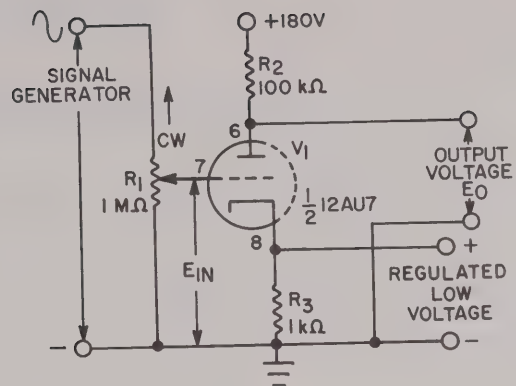
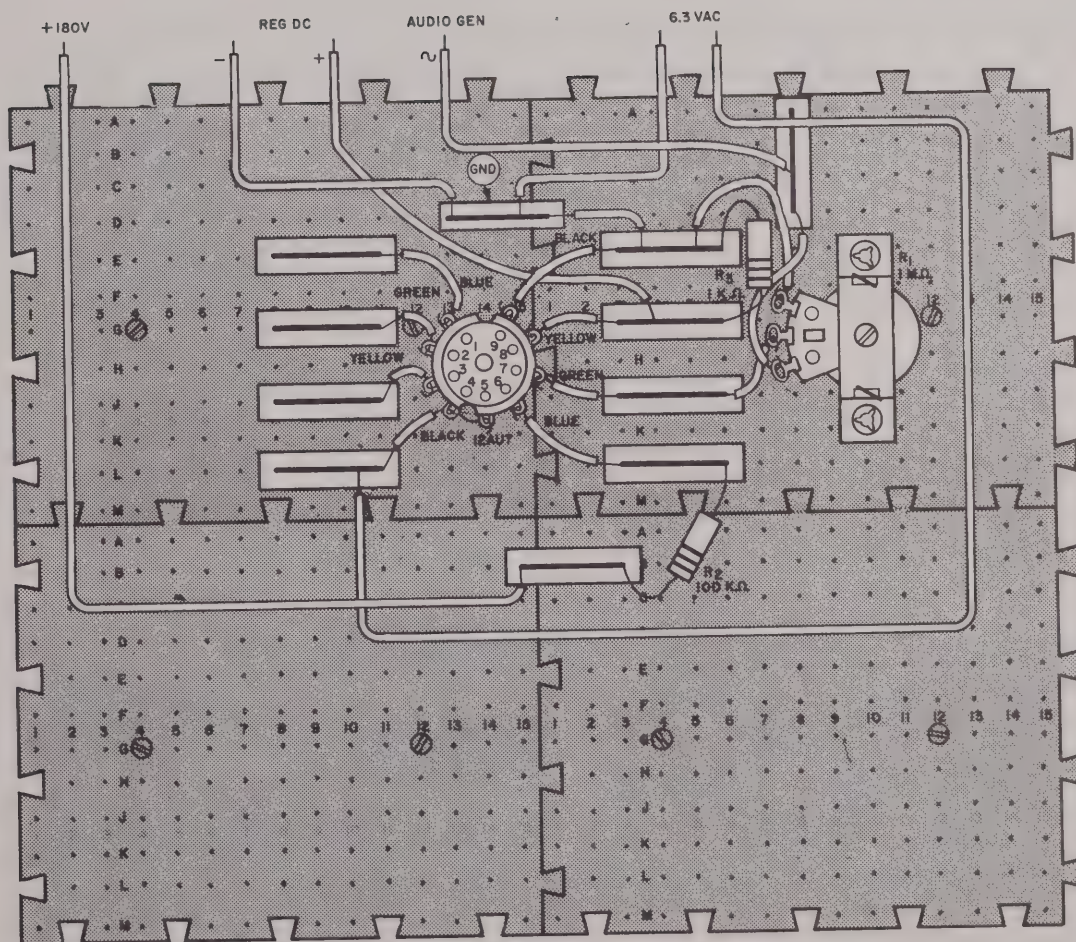

FIGURE 6-1
FIGURE 6-2
1. Set up the circuit of Figure 6-1 following the layout of Figure 6-2. R_1 controls the input signal level. Set the shaft on R_1 fully counterclockwise and set the ADJUST FREQ. control to mid-range, 5. Rotate the ADJUST VOLTAGE control fully counterclockwise and turn on the design console. The regulated low voltage power supply should be set to 30 volts. Allow a 5 minute warm up.